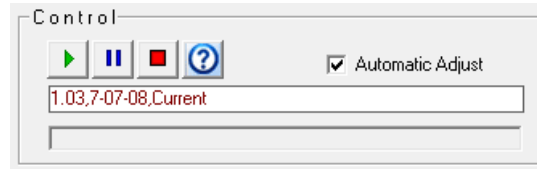

Figure 22. Control buttons for the sample run.
11. Begin running the samples by selecting the Start icon  under the Control section of the main screen (as shown in Figure 22).